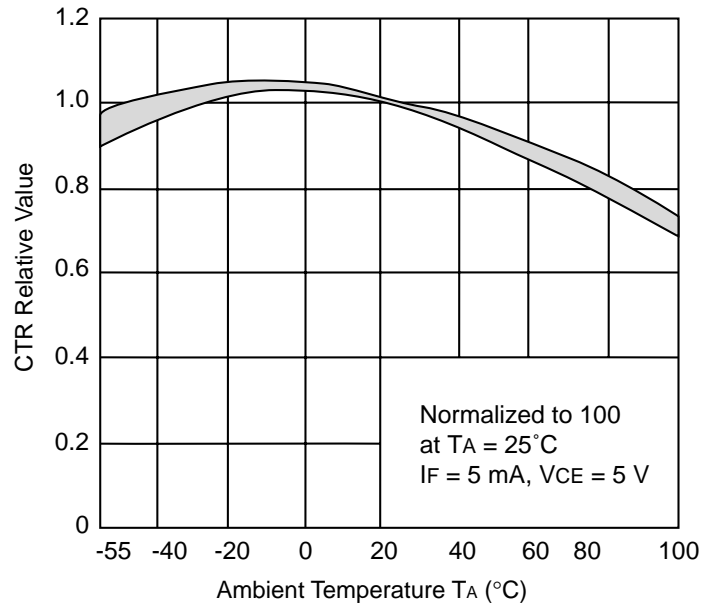

Figure 4-3. CTR-Relative-Value vs. TA Characteristics
- (From Fig. 4-3) CTR-relative-value vs. ambient-temperature characteristics